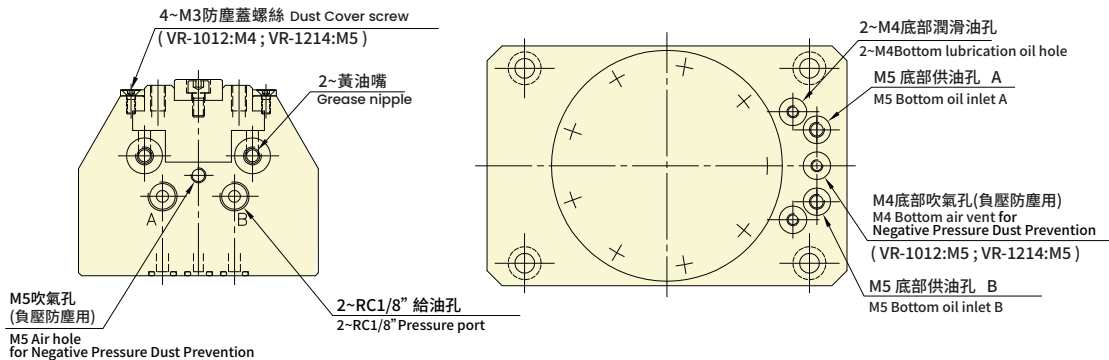
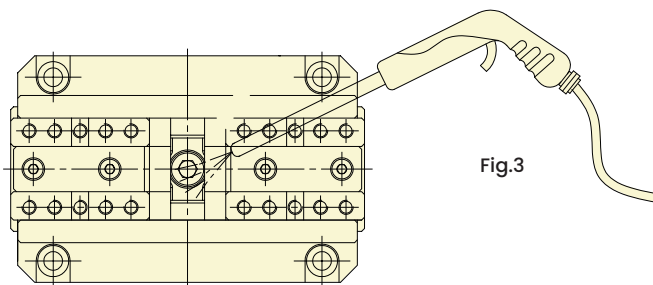

Fig.2
Fig.3
- After processing, be sure to clean the main body and sliding surfaces of the Power Centering Vise with an air gun or similar tool. When cleaning, please remove the Dust Cover Socket set screws and take off the Dust Cover. At the same time, open the main claw to its widest position, allowing for easy cleaning of debris inside the clamp. (See Fig 2 and Fig 3).